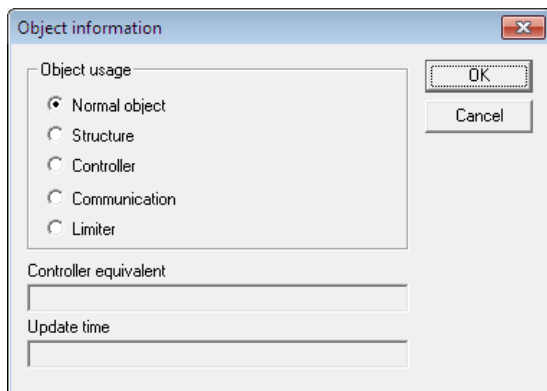

Figure 22. Object Information Settings for Comli
19. In Object Information dialog box, you can set process object usage as shown in Figure 22. Possible settings depend on the used communication protocol.